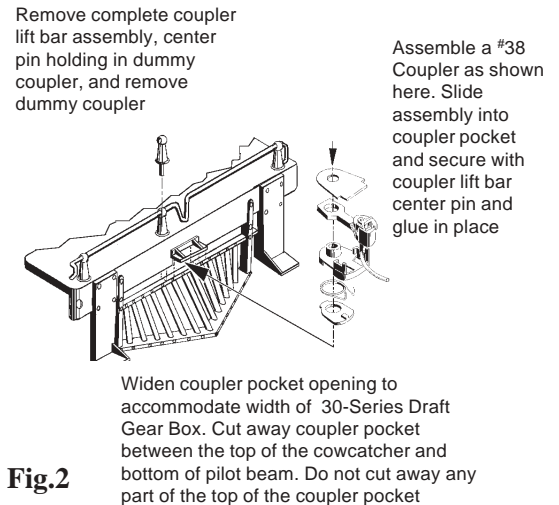

Fig.2
6. Cut away the part of the coupler pocket that is between the top of the cowcatcher and the bottom of the pilot beam, see Fig.2. Evenly trim both sides of the coupler pocket until you have a centered opening wide enough to slip the 30-Series Draft Gear Box in. The underside of the top of the coupler pocket should be flush with the underside of the pilot beam.